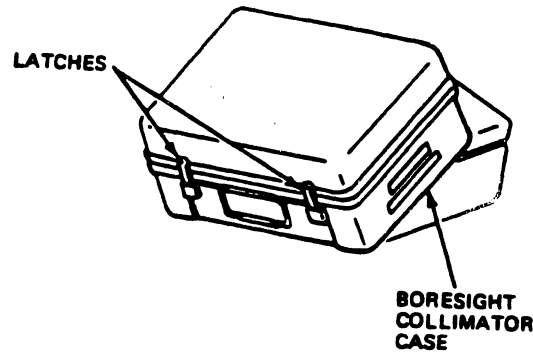

Fig 3-21. Boresight collimator case.
Step 3. Open the boresight collimator case by releasing the two latches (fig 3-21) and remove the boresight collimator from the case.